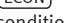

Fig. 91 On the instrument panel: Climatronic controls
- Turn the temperature selector ⇒ page 120, fig. 91 ⑩ to set the desired temperature.
- ① Blower speed control and ON / OFF system.
- ② Blower level indicator
- ③ Outside temperature display
- ④ Defrost windscreen display
- ⑤ Air recirculation display:
- ⑥ Display for airflow direction
- ⑦ Display **AUTO** (automatic operation)
- ⑧ Interior temperature selected display
- ⑨ Display **ECON** (air conditioning off)
- Press the button . The display is visible ⇒ page 120, fig. 91 ⑦.
- Press one of the buttons ⇒ page 120, fig. 91 **13** to **15**, or turn the blower control **1**. The display is switched off **7**.
- Press the button  to switch air recirculation mode on or off. This is ON if the symbol  ⇒ page 120, fig. 91 **5** is displayed on the screen.